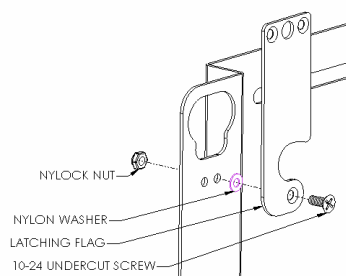

Figure 2
1. Attach latching flag to mount using the 10-24 Phillips head screw, Nylon washer, and Nylock nut (see Figure 2). Tighten until friction will hold the flag in place.